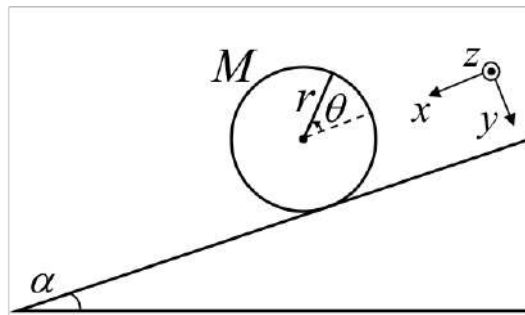

Figure 1
1. Consider the motion of a uniform sphere placed on a slope with a rough surface at the angle,  $\alpha$ , to the horizontal plane as shown in Figure 1. Here,  $M$  and  $r$  are mass and radius of the sphere, respectively,  $I$  is the moment of inertia around the central axis of the sphere, and  $g$  is vertically downward gravity acceleration. Coefficients of static and dynamic frictions between the sphere and the slope are denoted by  $\mu$  and  $\mu'$ , respectively. The  $x$ -axis is parallel to the slope (downwards as positive) and the  $y$ -axis is vertical to the slope (downwards as positive). The rotation angle around the rotation axis of the sphere is denoted by  $\theta$  (anticlockwise as positive). Assume that the sphere is at a stop at the initial state. Answer the following questions.